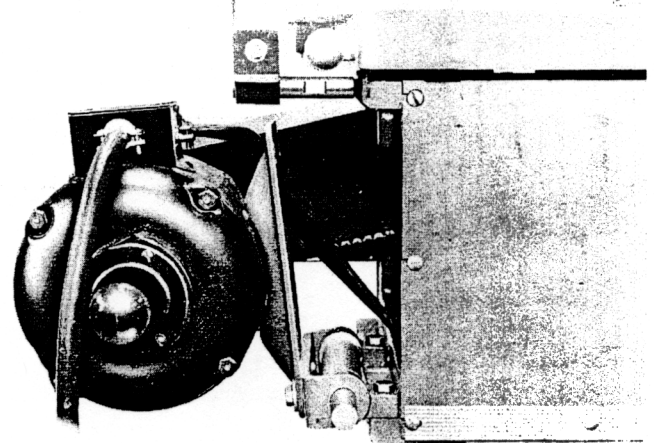

Figure 2
5. The Delta 1 or 1½ horsepower single phase or the 1 or 1½ horsepower 3 phase motors have been especially designed for your saw. Assemble motor to motor hinge bracket, see Fig. 2. Care should be taken to have